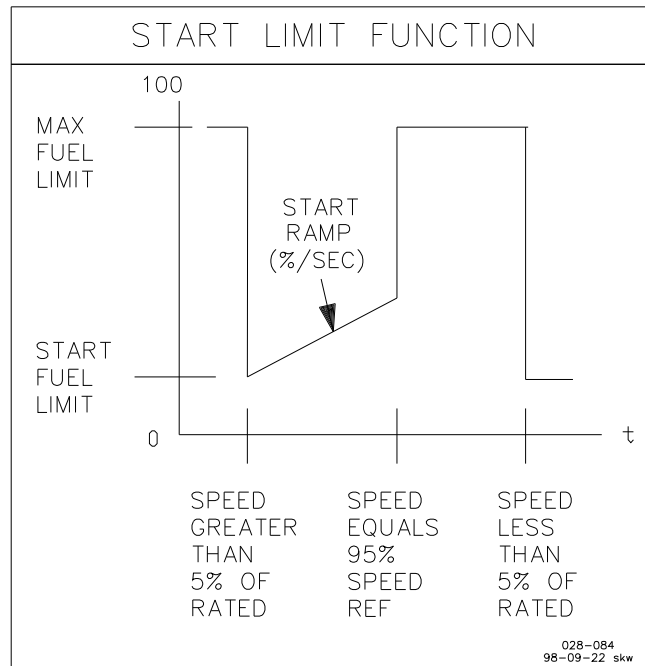

Figure 3-7. Start Limit Function
1. **START FUEL LIMIT** limits the percent fuel demand when the engine is started. The limit is usually set at the fuel level required to start the engine. The limiter is disabled when the engine speed exceeds 95% of the speed reference and the Speed Control PID is in control for 1 second (see Figure 3-7).